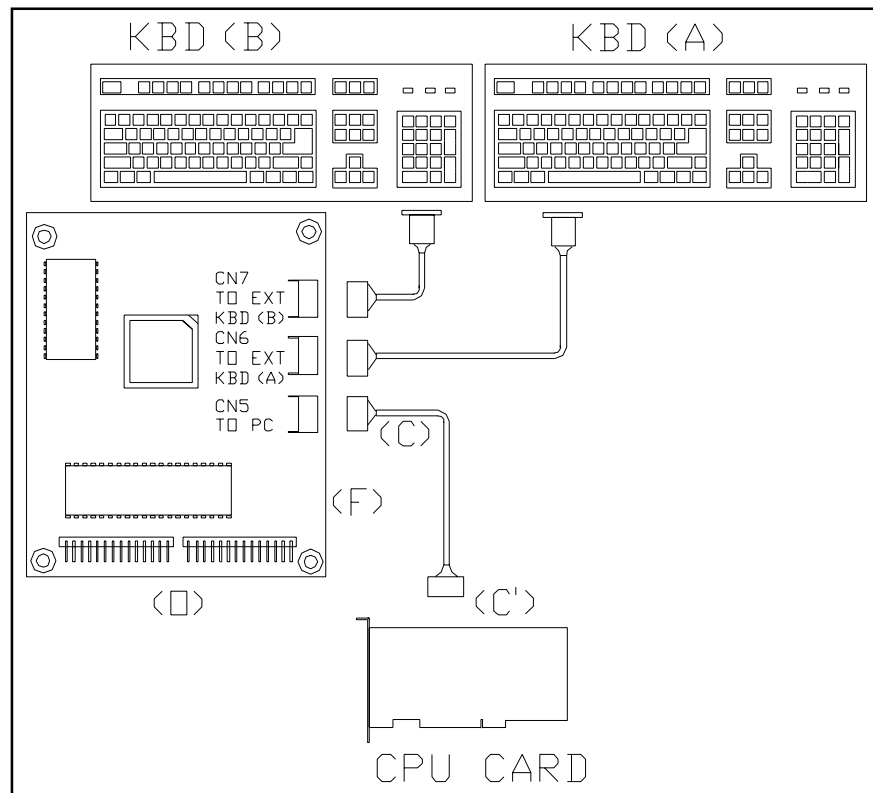

Figure 4-5: Keyboard translator input/output (detailed schematic)
The keyboard translator is an interface which switches the signal from the membrane keypad to the standard AT keyboard. There are six connectors on the board. On top of the board, there are two connectors linking two flat cables with the larger membrane keypad (as shown in Fig. 4-5). On the side of the board, there are four connectors. For connection details, refer to Fig. 4-5.
5. Carefully detach all cables connected to the keyboard translator. (See Fig. 4-5.)